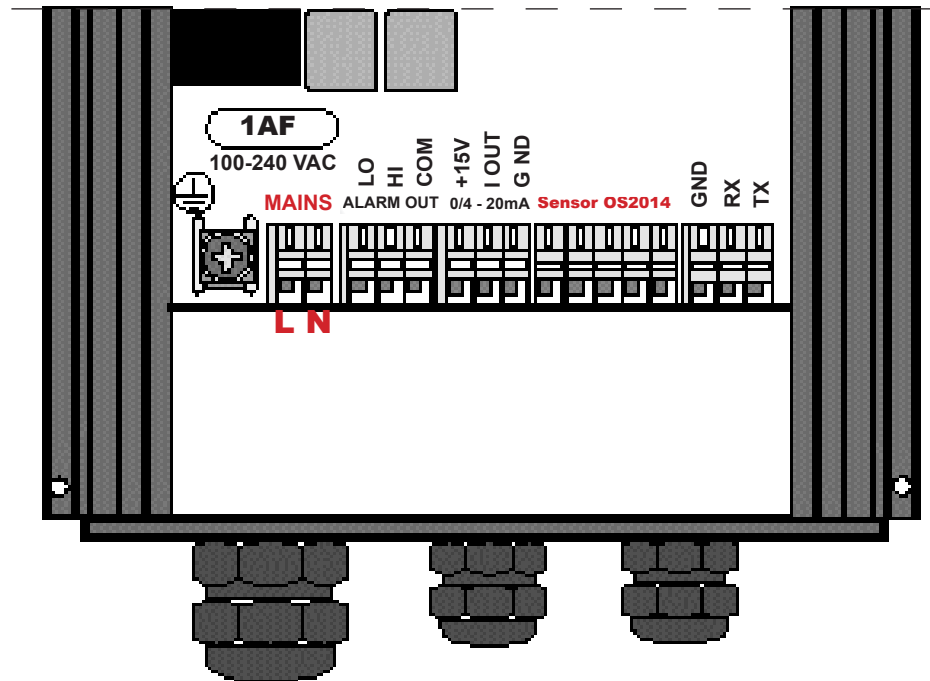

Fig.6
4.2.1 Cable connections, Fig.6